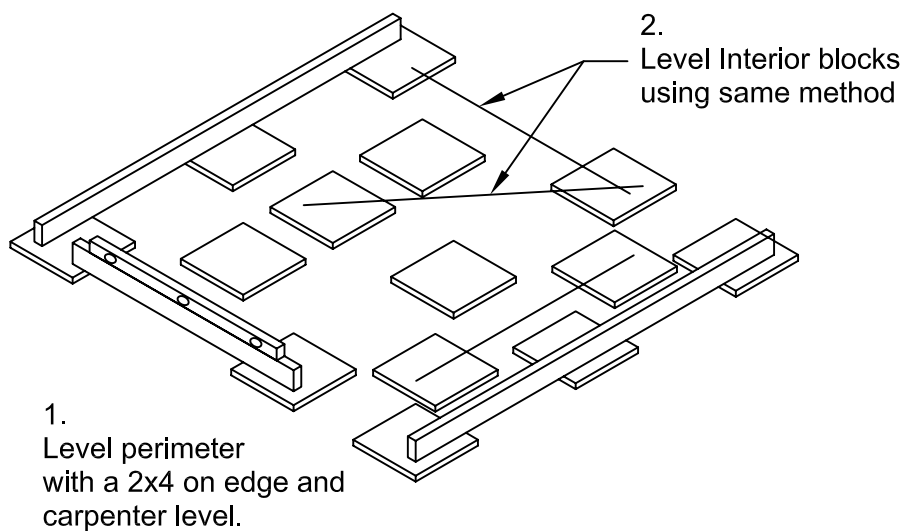

Figure B2
3. Use a 2x3 or 2x4 straight piece of lumber on edge, and a carpenter's level to level the perimeter patio stones. Add or remove soil under each stone until it is flush with the bottom of the 2x4 as shown in "Figure B2". Continue this procedure with the interior tones until you are satisfied all the stones are level with one another.